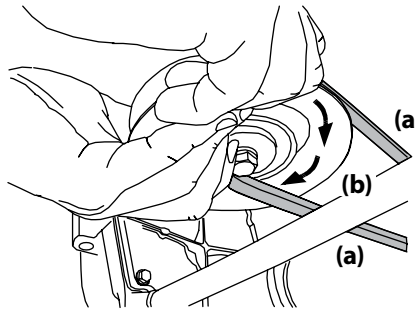

Figure 4-14
- d. While still holding the PTO belt (a) downward, continue turning the PTO pulley (b) until the PTO belt (a) is rolled off the PTO pulley (b). Refer to Figure 4-14.
11. Pull the right side of the PTO belt rearward and place the narrow V-side of the PTO belt into the PTO pulley. See Figure 4-14.
12. While holding the PTO belt and PTO pulley together, rotate the PTO pulley to the left (See Figure 4-14). Continue holding and rotating the PTO pulley and PTO belt until the PTO belt is fully rolled into the PTO pulley.